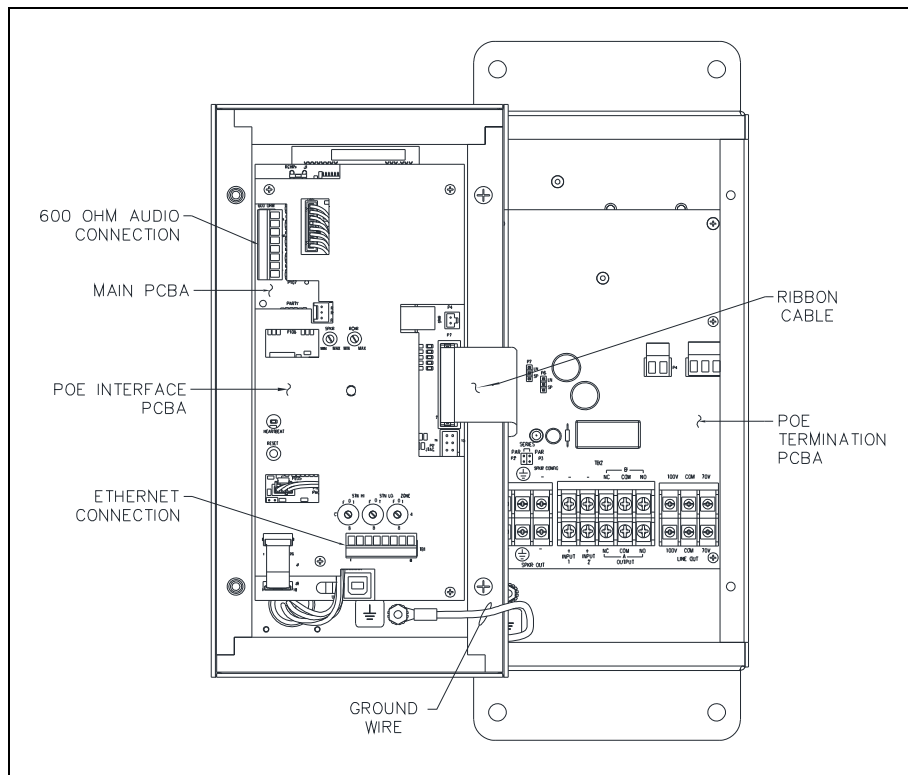

Figure 3. SP2 PoE Station—Interior View
2. Secure it to the ground terminal, located in the lower left corner, at the back of the rear enclosure (see Figure 3).